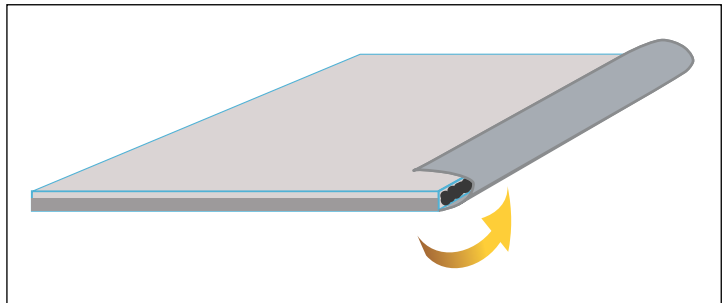

Fig. 16: Folding tape over to rebuild factory edge
6. Fold the tape over to rebuild factory edge (Fig. 16)